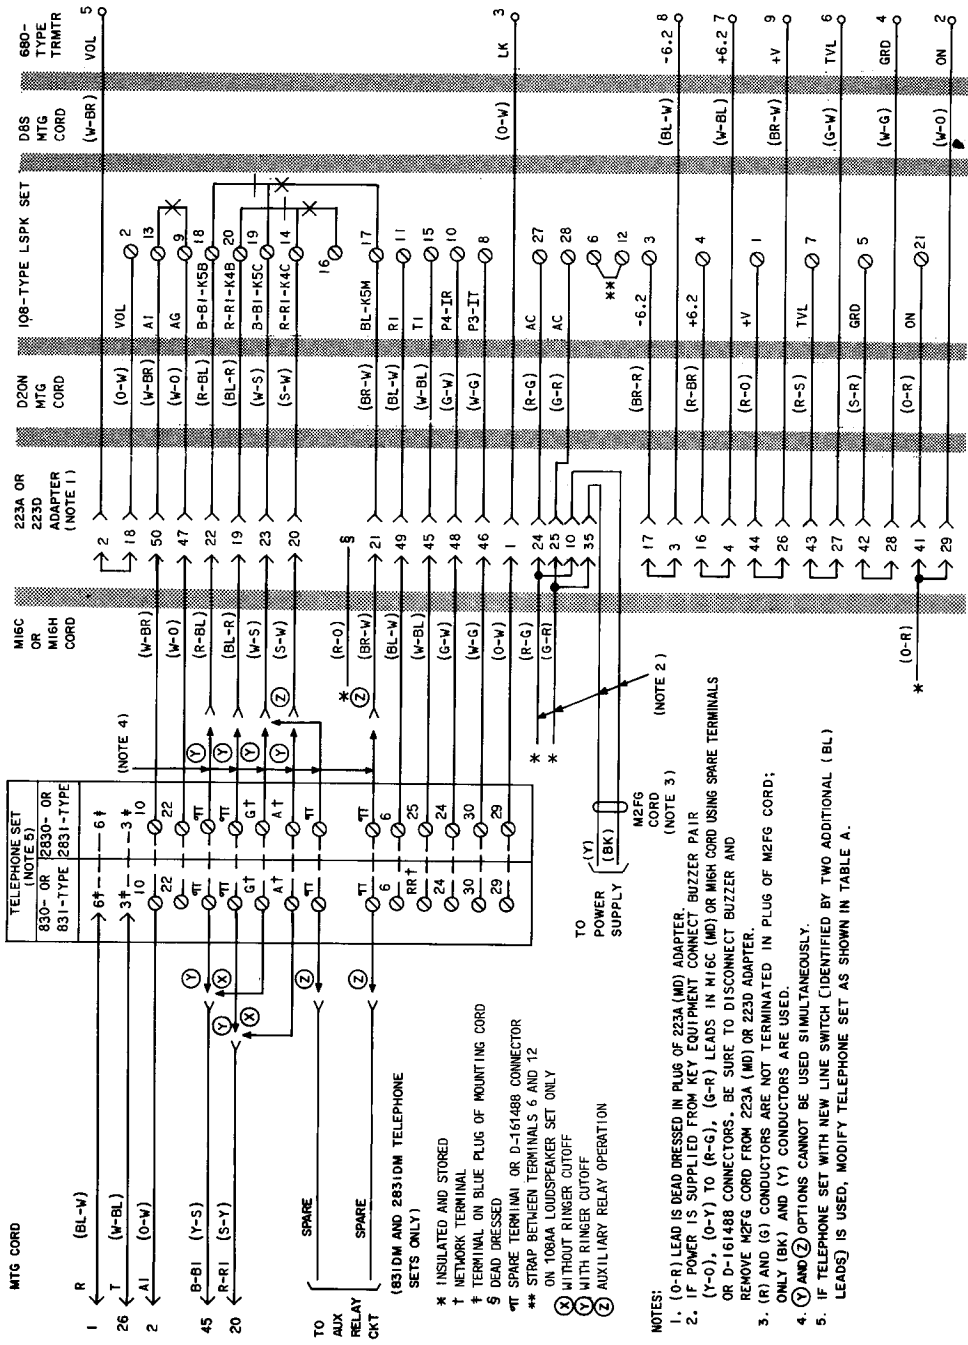

Fig. 2—4A Speakerphone System Arrangement, Connections to 10- or 20-Button Telephone Set
**2.02** Ringer Cutoff can be provided by connecting ringer leads as shown in Fig. 2. Ringer cutoff provides cut off of the telephone set ringer